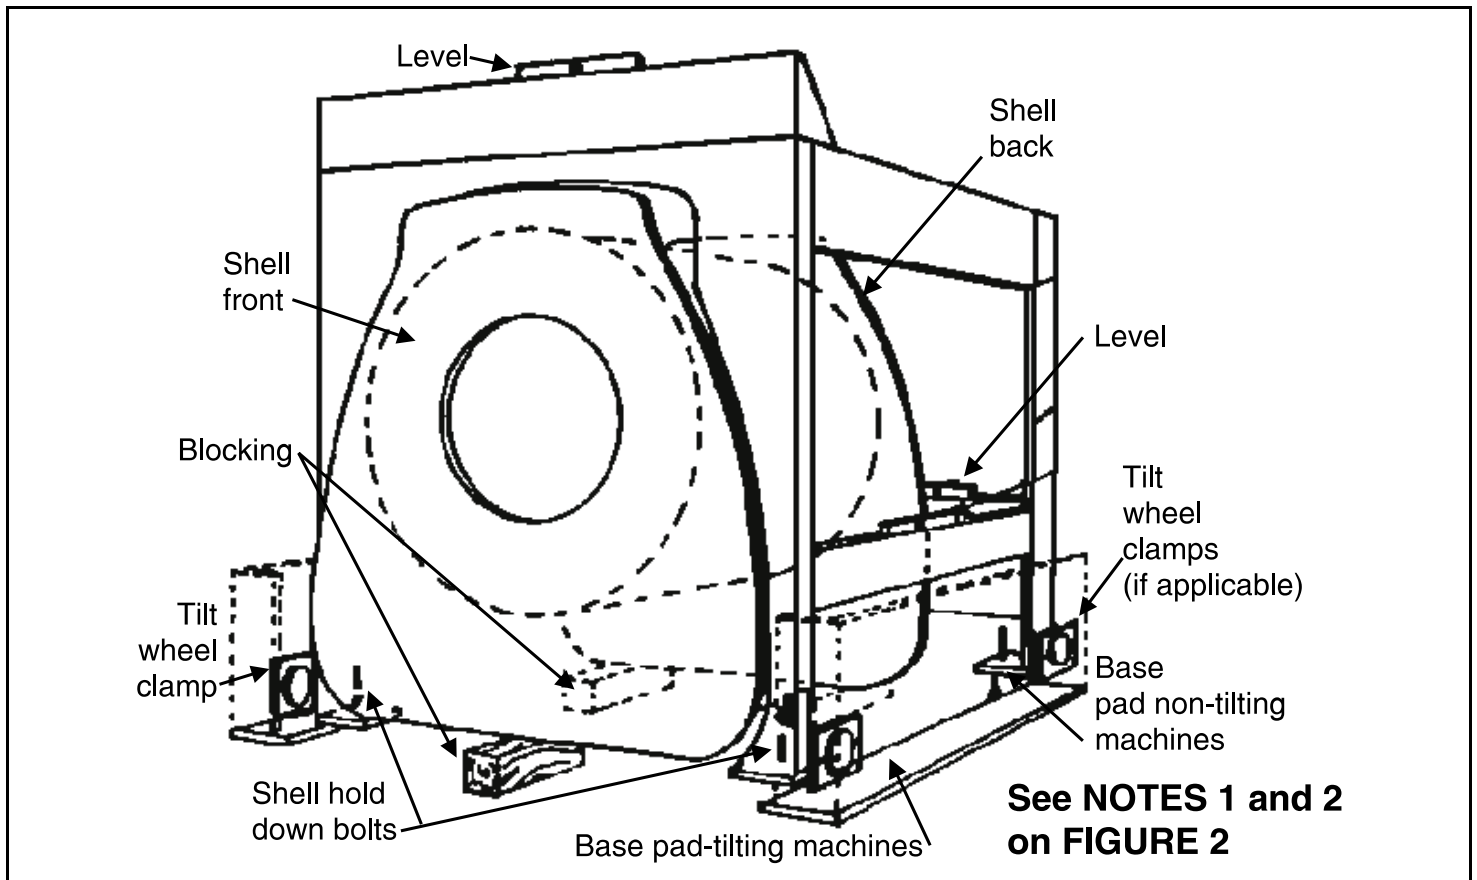

FIGURE 6 (MSIN0203AE)
1. Lower the machine onto removable blocking, such that the shell front and shell back are resting on the blocking as shown in FIGURES 6 and 9 (For 52" and 60" machines, place blocking with one in the front and two in the rear. For 72" machines, place two in the front and one in the rear). The blocking must provide for 1" minimum clearance between the floor and the base pads.